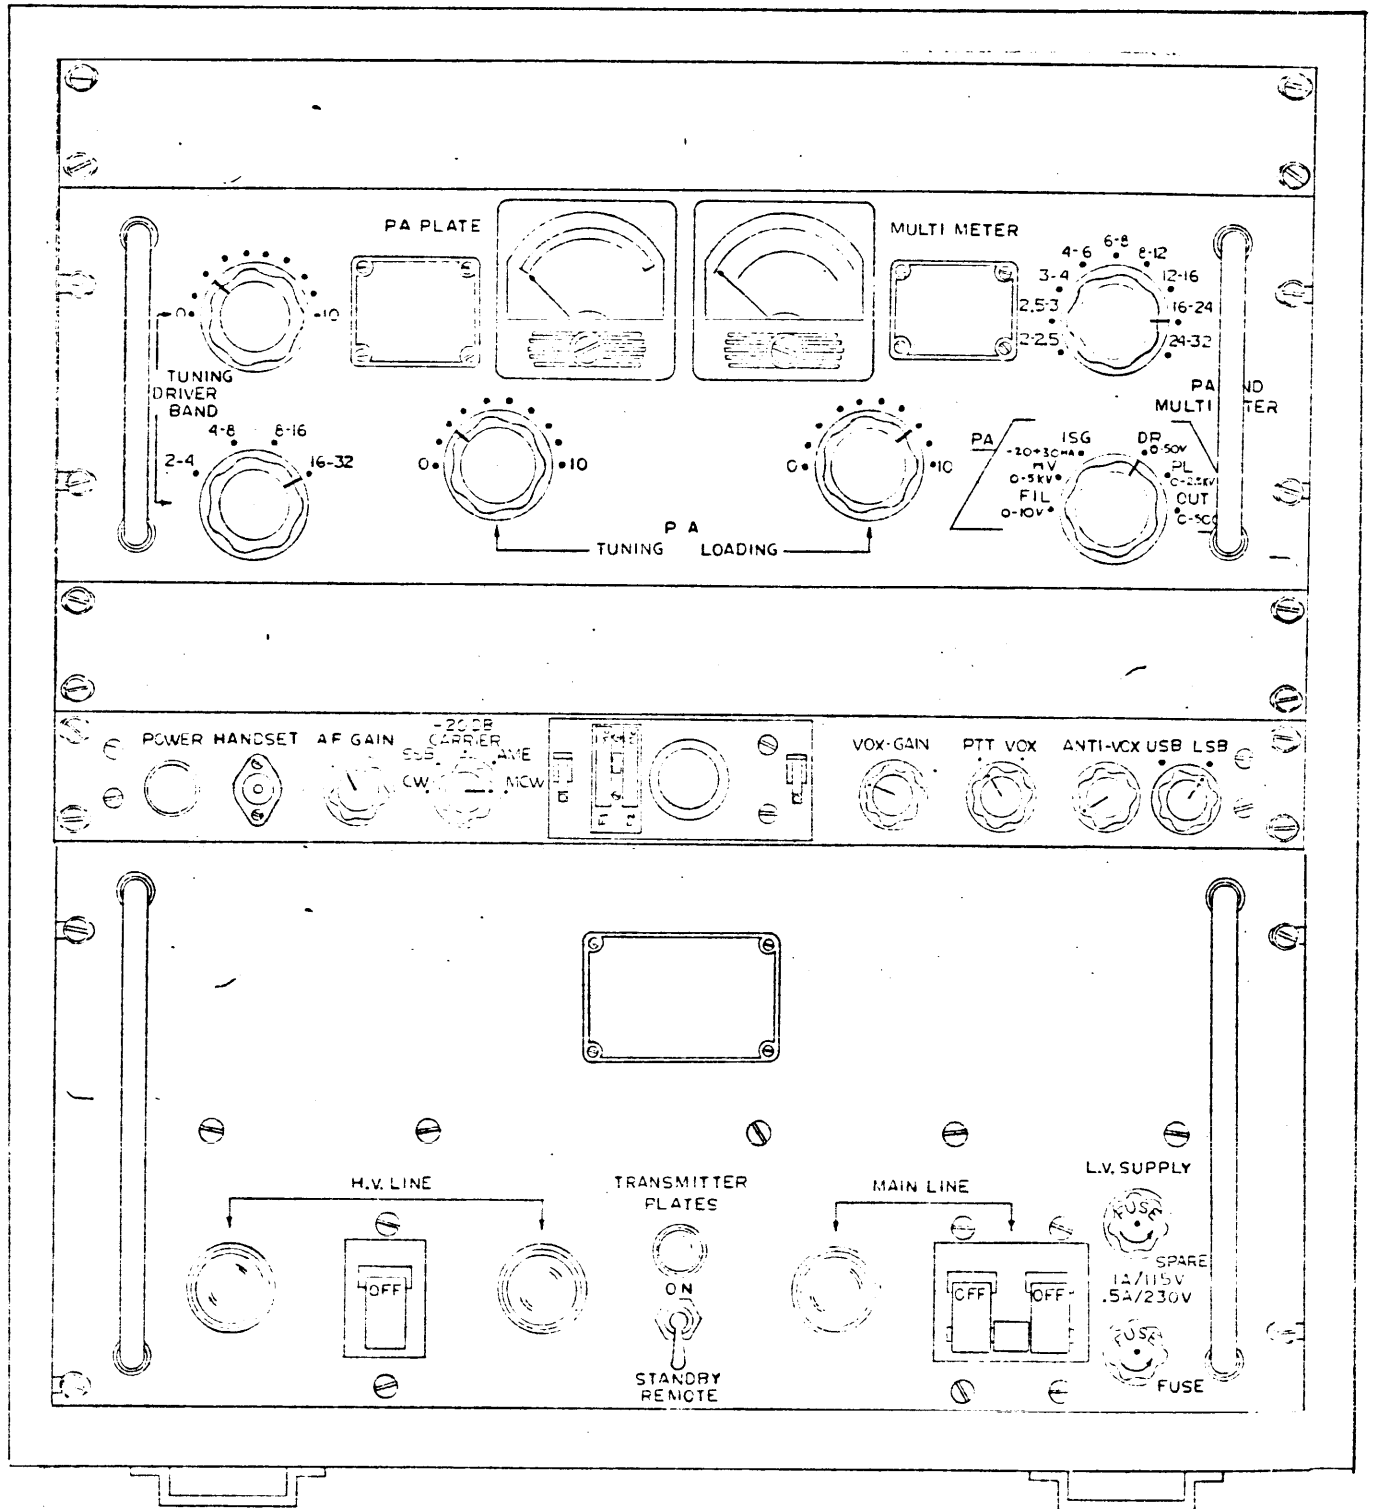

Figure 1-1: GPT-500YA SYSTEM
The GPT-500YA (figure 1-1) is a single-channel, fixed frequency low power transmitter system capable of providing 500 watts peak envelope power. The system consists of the model PSP-500 Power Supply, RFE-1 Linear Power Amplifier and the STE-5 Sideband Strip Exciter. This system operates in the frequency range of 2 to 32 MHz. The system is capable of operating on the following modes: CW, MCW, AME, SSB, DSB and ISB. The system may be remotely controlled to provide the following operational functions: PA plates on-off, CW key, PTT (press to talk), and a selection of PTT modes between A3J (fully suppressed carrier), A3A (-20 db suppressed carrier) and A3H (full carrier).
The GPT-500 can be mounted into a standard 19 inch equipment cabinet or console. Determine installation location and mount equipment cabinet or console (either base or shock mount as desired). Use the equipment mounting hardware supplied as Loose Items and mount the modular units as shown in figure 1-1. Install the heaviest unit (PSP-500) first to avoid offsetting the center of gravity of the equipment cabinet. For specific mechanical installation refer to the modular manuals provided.
b. Refer to figures 1-1 and 2-1 for the controls and indicators put together as a system.